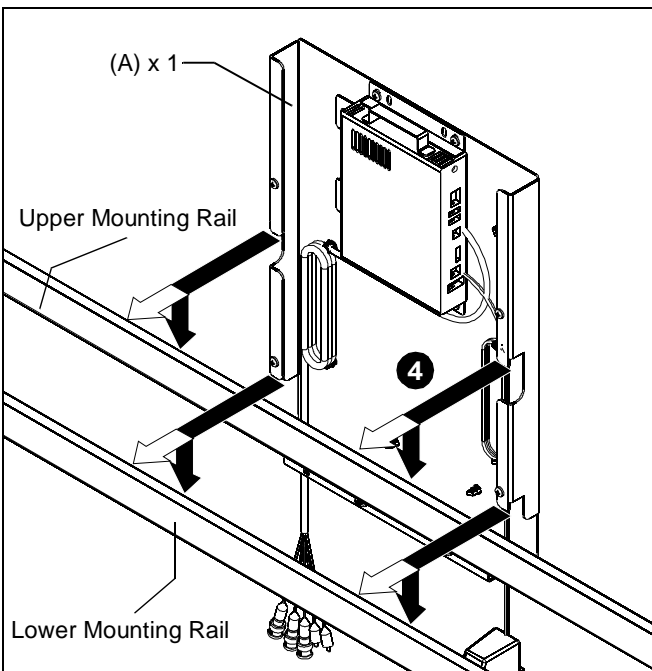

Figure 2
4. Orient mount as shown in figure below and hang mount assembly (A) on upper and lower mounting rails. (See Figure 2)